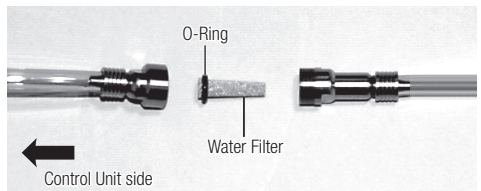

Fig. 26
2) When the Water Filter Case is apart the water filter can be removed as shown in Fig.26. Replace with a new water filter and reassemble the filter in the reverse order.
Assemble the Water Filter in the correct direction as shown in Fig.26.